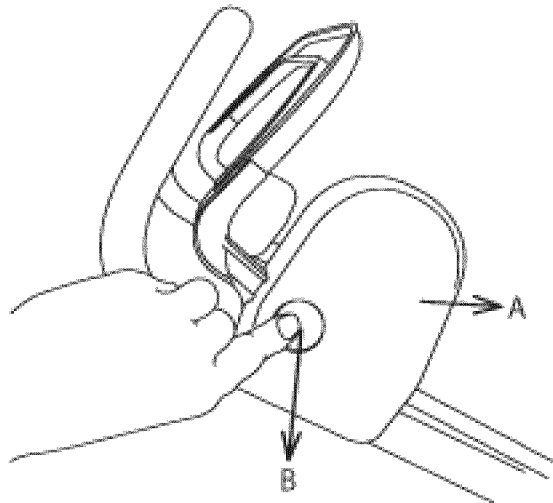

Figure 20
1. To power on, first press the switch button found alongside the switch housing (Fig. 20).